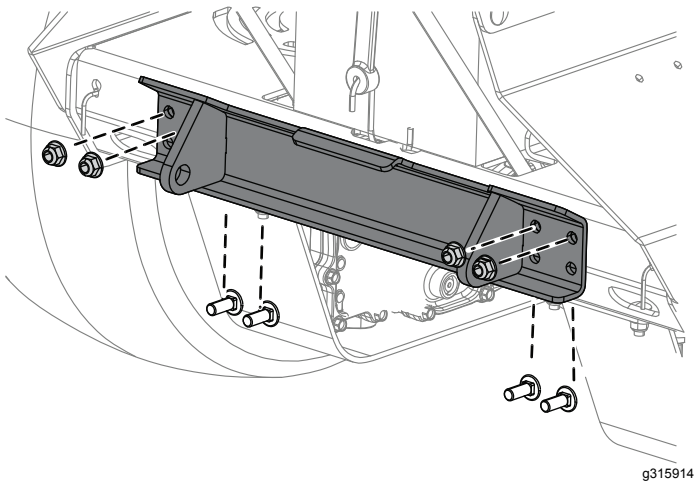

Figure 2
1. Install the back plate to the lower rear frame of the machine using 4 bolts and 4 nuts (Figure 2).